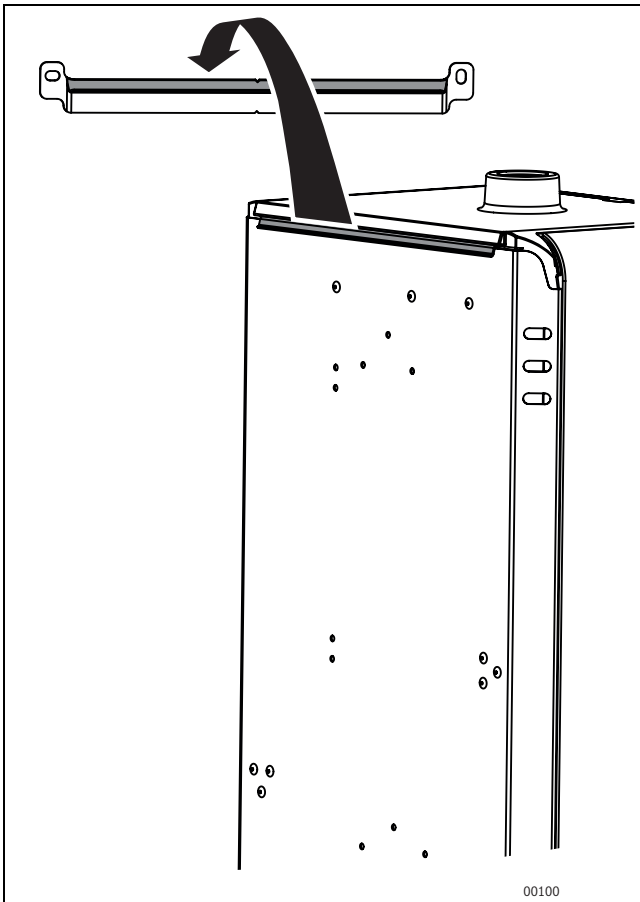

Fig. 15 Hanging the indoor unit
- ▶ Hang the indoor unit centrally onto the mounting rail (→ Fig. 15).